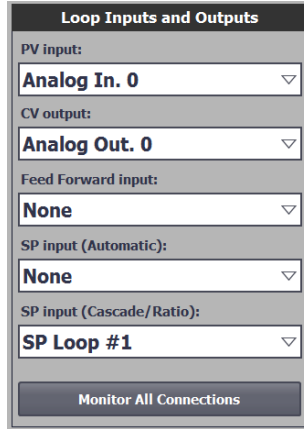

Figure 5. Loop inputs and outputs configuration.
In the inputs and outputs section of the screen, you can configure the process variable input (PV), control variable output (CV), feedforward input (FF), and set points (SP) for both the automatic and cascade/ratio modes (Figure 5). Select the appropriate input and output signals from the appropriate drop-down list.